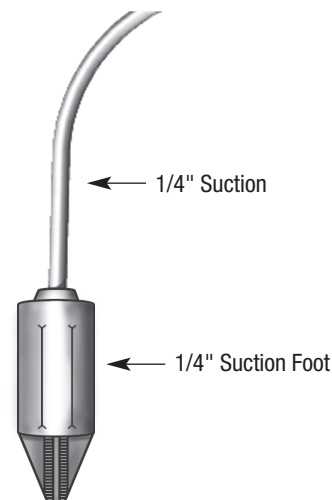

Fig. 3
5. Assemble suction foot valve on free end of suction tube. (Fig. 3)